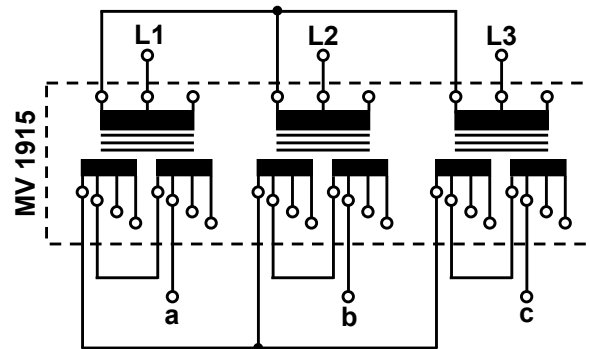

Figure 4: Connection of MV 1915 three-phase power transformer with YY-connection
1. For three-phase power transformer (MV 1915), connect each of the primary and secondary windings as Y-connection as shown in Figure 4.